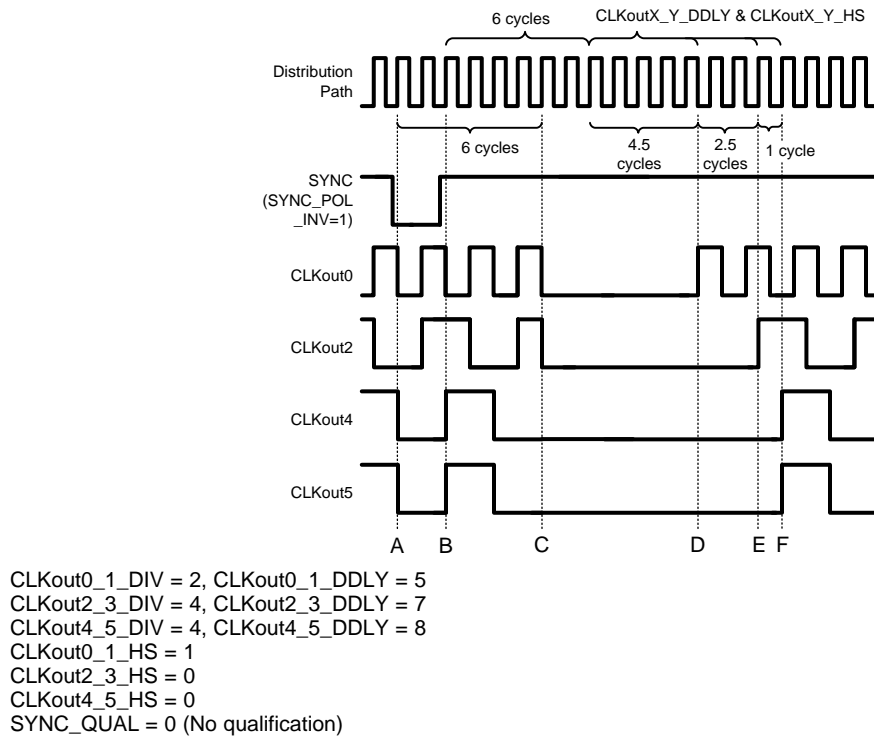

Figure 7-3. Clock Output synchronization using the SYNC pin (Active Low)
Figure 7-3 illustrates clock outputs programmed with different digital delay values during a SYNC event.
Refer to Figure 7-2 during this discussion on the timing of SYNC. SYNC must be asserted for greater than one clock cycle of the clock distribution path to latch the SYNC event. After SYNC is asserted, the SYNC event is latched on the rising edge of the distribution path clock, at time A. After this event has been latched, the outputs will not reflect the low state for 6 cycles, at time B. Due to the asynchronous nature of SYNC with respect to the output clocks, it is possible that a glitch pulse could be created when the clock output goes low from the SYNC event. This is shown by CLKout4 in Figure 7-2 and CLKout2 in Figure 7-3. See Section 7.9.2.1.2 for more information on synchronizing relative to an output clock to eliminate or minimize this glitch pulse.
Figure 7-3 illustrates the timing with different digital delays programmed.
- For example see CLKout4 in Figure 7-2 and CLKout2 in Figure 7-3.